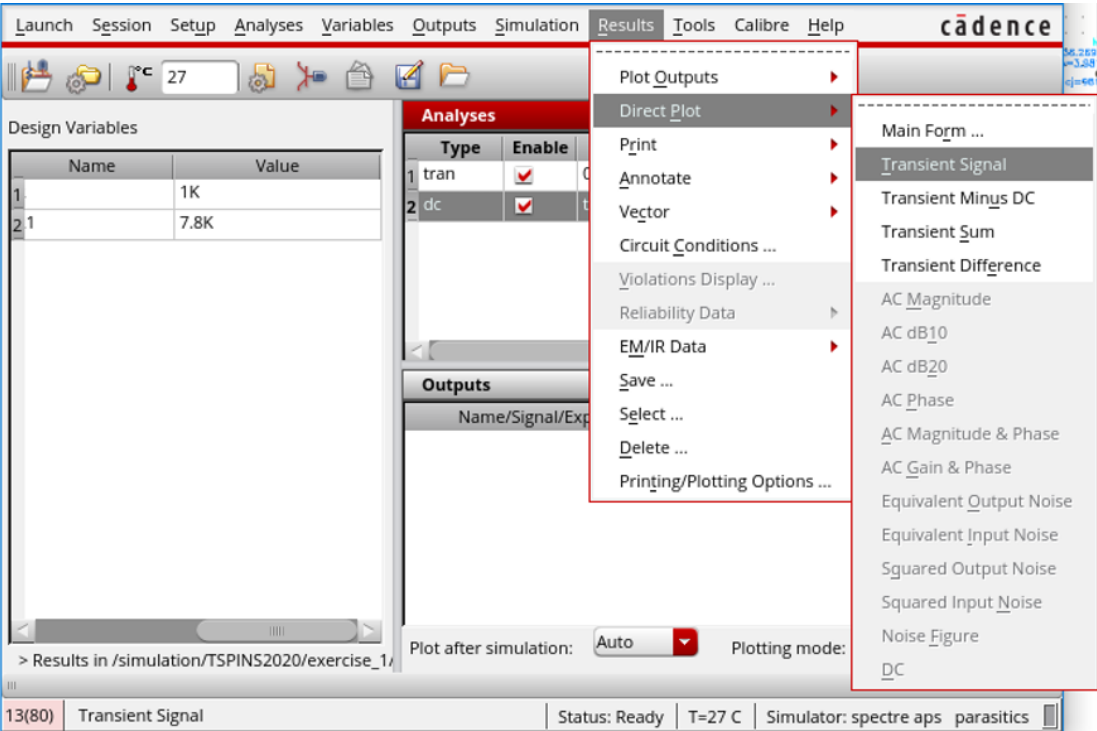

Fig.12 TRAN simulation result setting
16. Select “**Results**”→ “Direct Plot”→ “Transient Signal”, as shown in Fig.12.